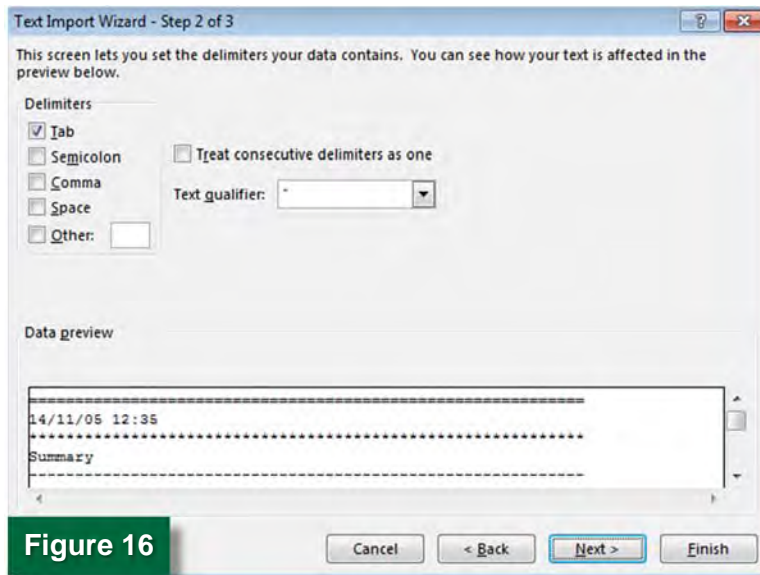

Figure 16
5. On this screen, specify that the data are tab-delimited, and then click **'Next'** (Figure 16).